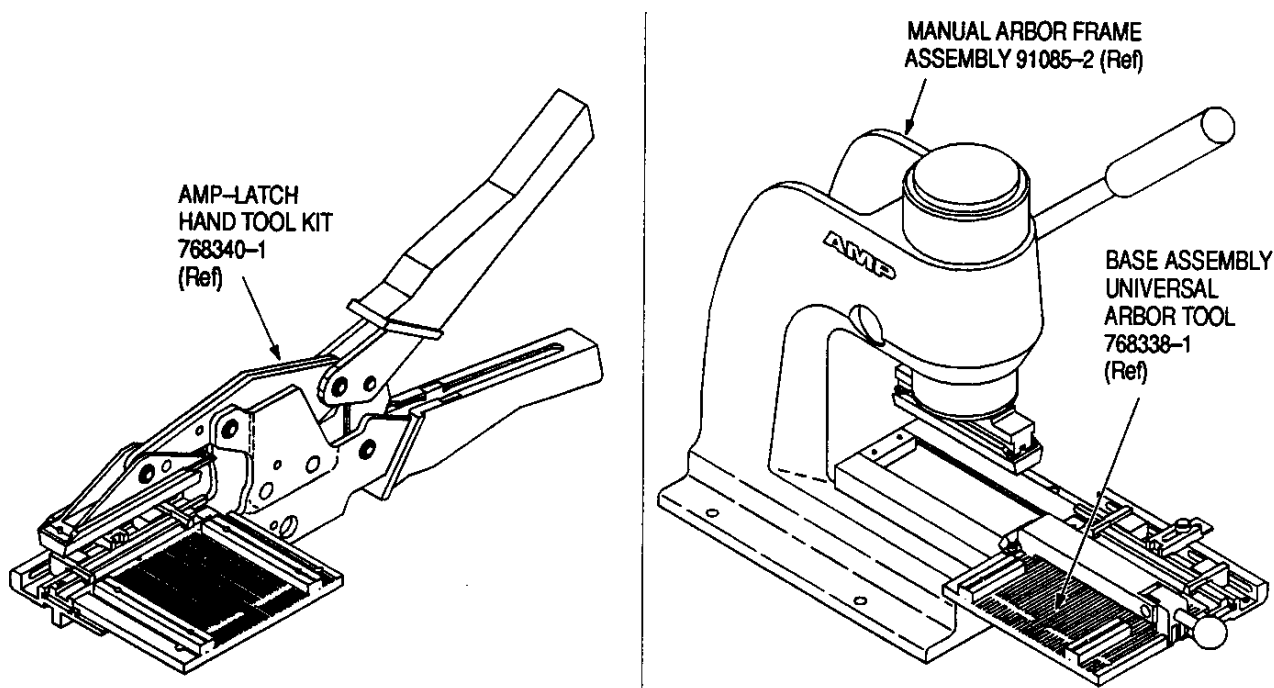

Figure 1
This instruction sheet describes AMP Connector-Specific Kit 768347-1, lists cable requirements, and describes installation of the connector-specific kit. (See Figure 1.)
AMP-LATCH Hand Tool Kit 768340-1 (Figure 1) to terminate AMP-LATCH DIP Connectors to ribbon cable with 1.27 mm [.050-in.] centerline spacing. See Figure 2.
2. DESCRIPTION (Figure 1)